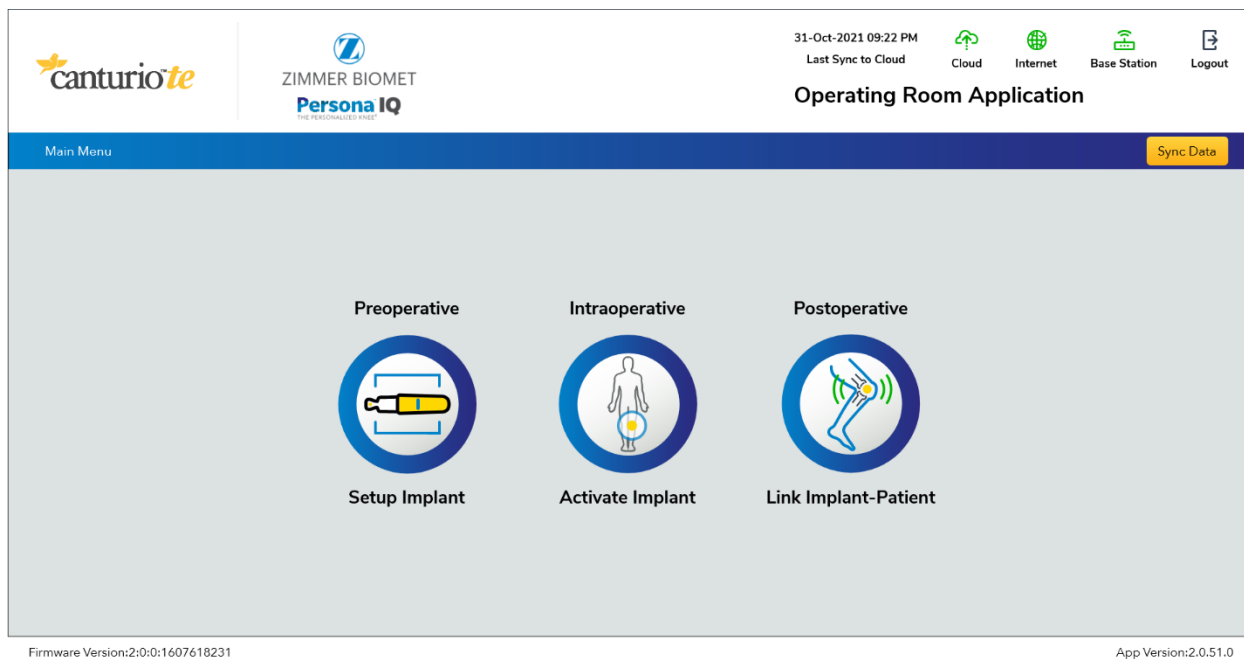

Figure 27: Main Menu
7. Enter your authorized Username and Password and click the “Login” button. This will take you to the Main Menu screen. **Figure 27**. Click on the “Activate Implant” Icon.